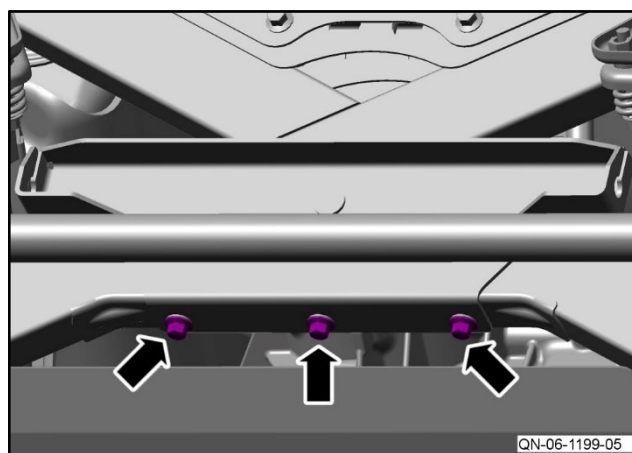

Figure 8
9. Remove the three bolts that attach the park brake bracket to the rear subframe (refer to Figure 8).